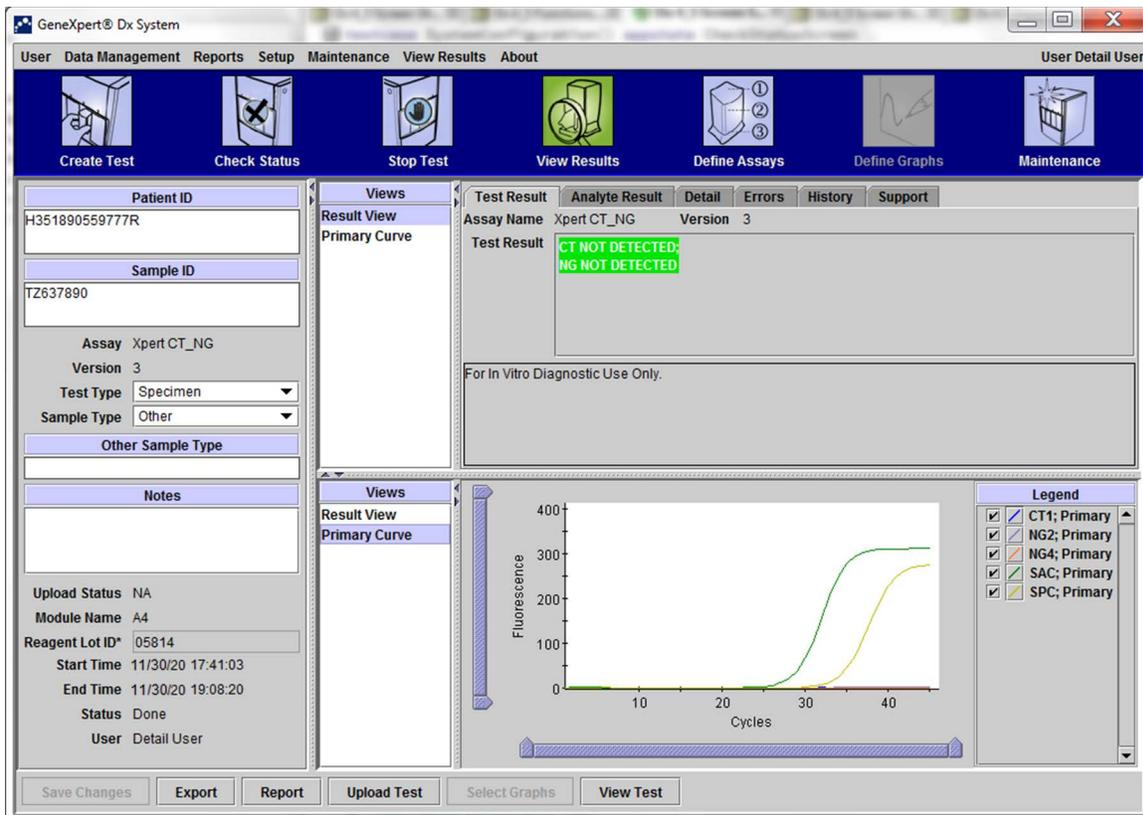

Figure 5-36. GeneXpert Dx View Results Window (Detail and Administrator View)
1. In the GeneXpert Dx System window, click **View Results** on the menu bar. The View Results window appears. See Figure 5-36.
The View Results window displays different features for different user types. Section 5-37, Select Test to be Viewed Dialog Box - Basic User View describes the View Results window for the Basic users. Section 5.12.2, Detail User and Administrator View describes the View Results window for the Detail users and Administrator users. Figure 5-36 shows a View Results window for Detail users and Administrator users.